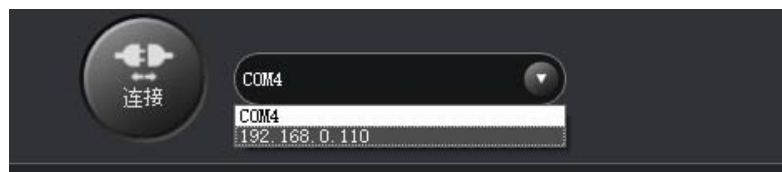

Figure 5.178 IP address of Dobot Magician
Step 8 After 2 seconds later, select the IP address from the drop-down list on the upper left pane of the DobotStudio page and click **Connect**, as shown in Figure 5.178.